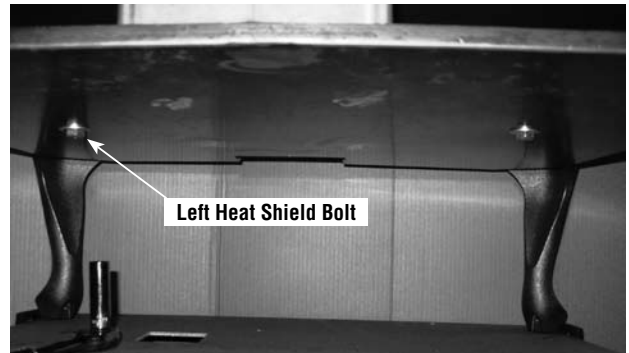

Figure 26
Step 1. Using a 9/16" wrench or socket loosen the left heat shield bolt. This bolt is located on the bottom side of the leg heatshield as shown. See *Figure 26*.